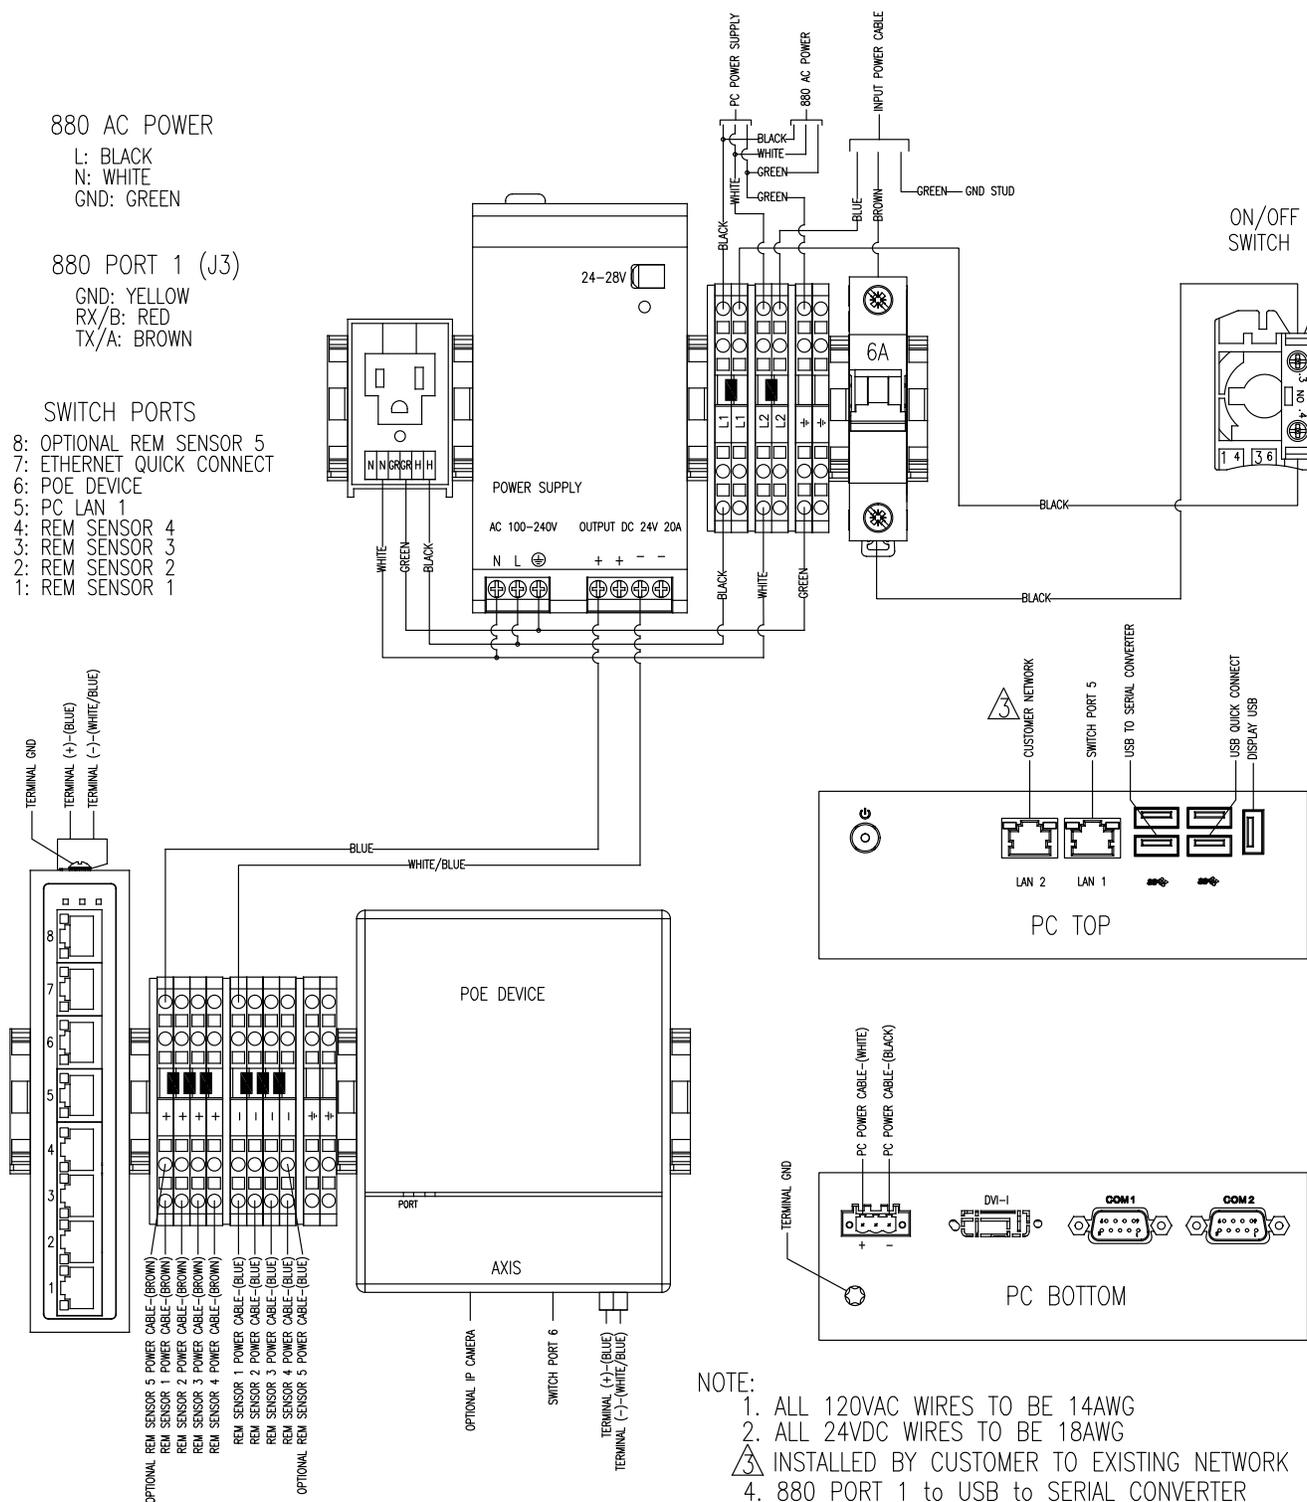
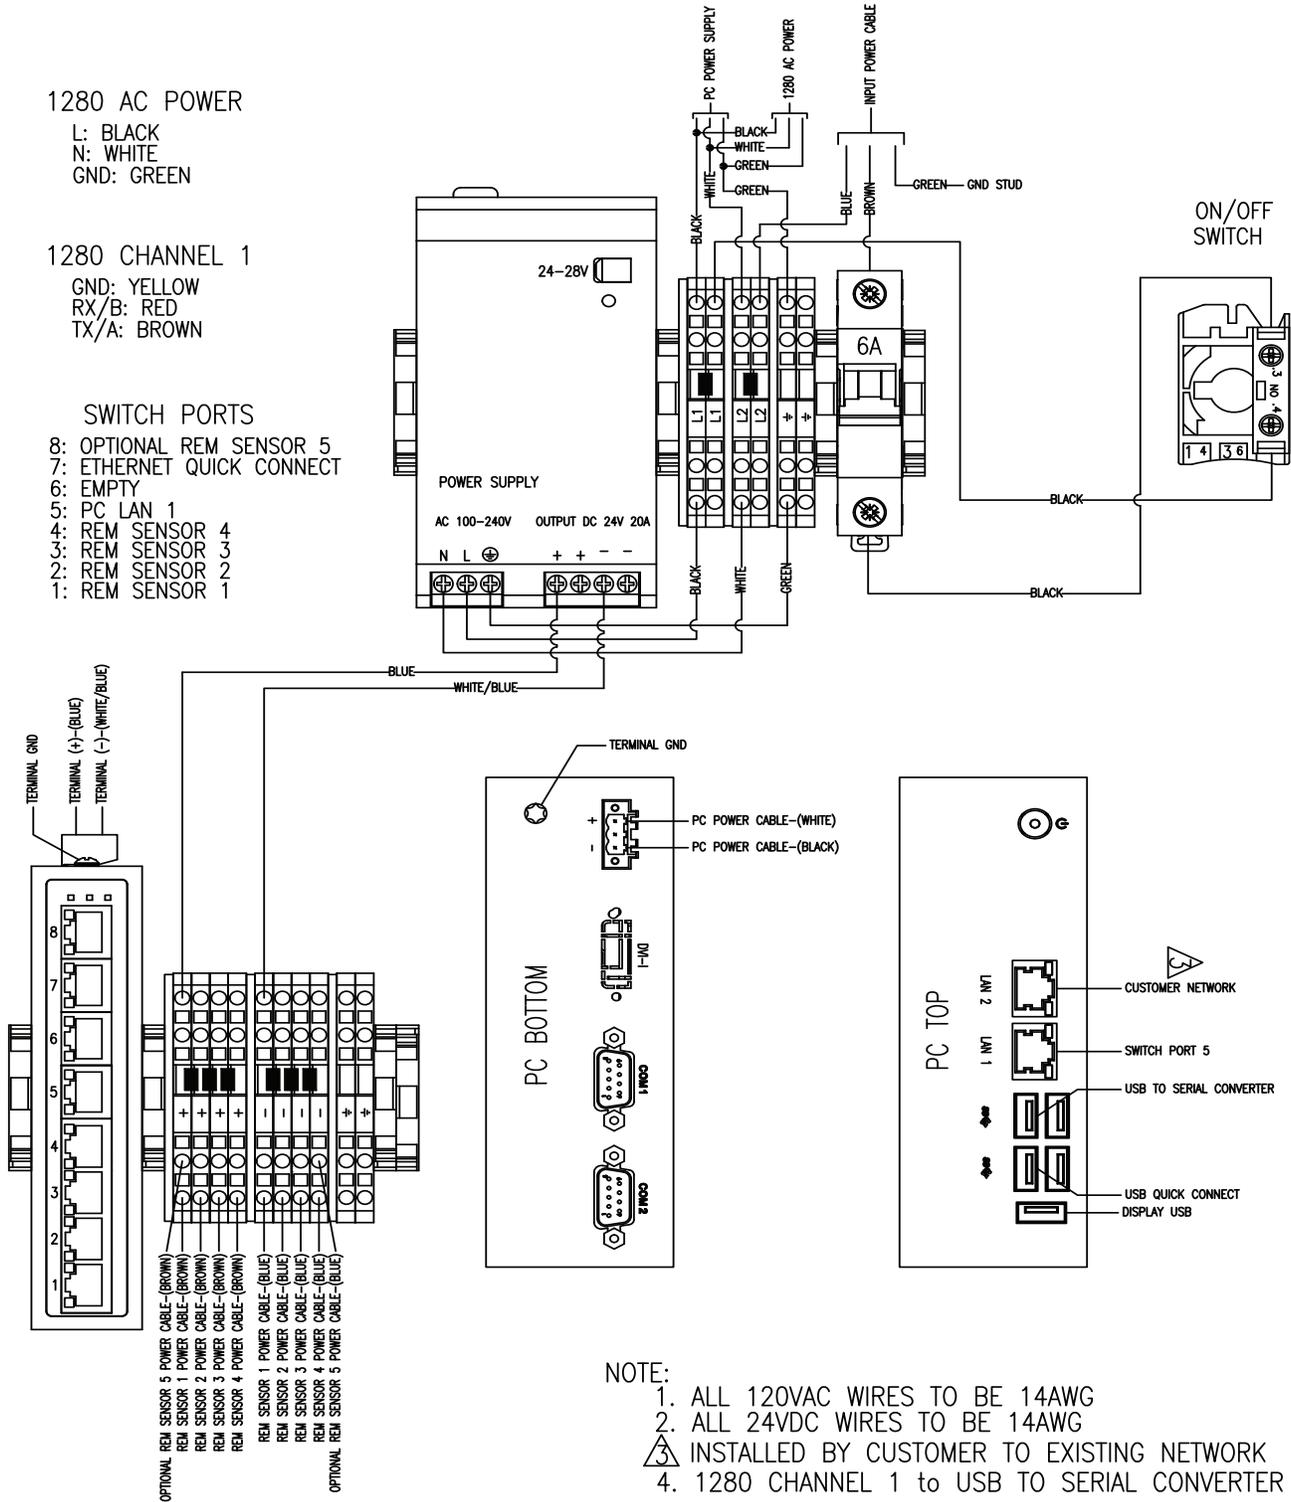

Figure 3-20. 880 Wiring Diagram
Figure 3-21. 1280 Wiring Diagram
- Strip and wire the SUMMIT 3000 scale homerun cable to the indicator (Figure 3-20 for 880 Indicator and Figure 3-21 on page 28 for 1280 Indicator).